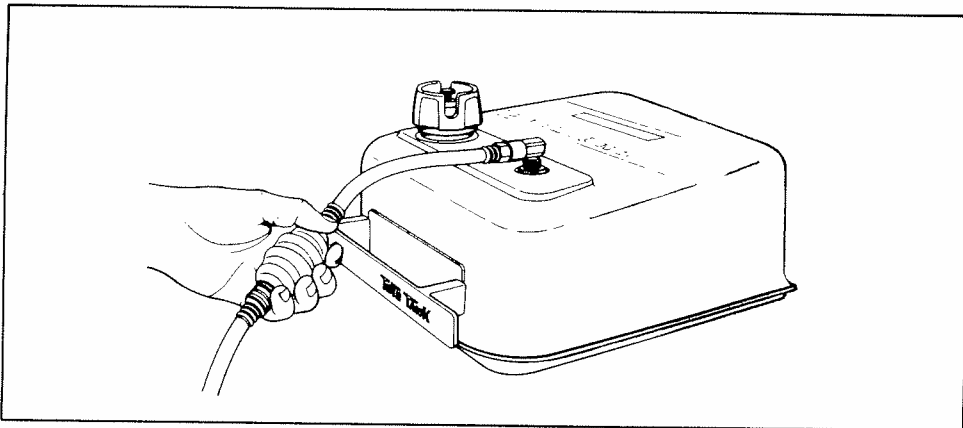

FIGURE 10
3. Squeeze prime bulb in fuel line several times until bulb becomes firm. This pumps fuel from tank to engine in preparation for starting. (See Figure 10.)